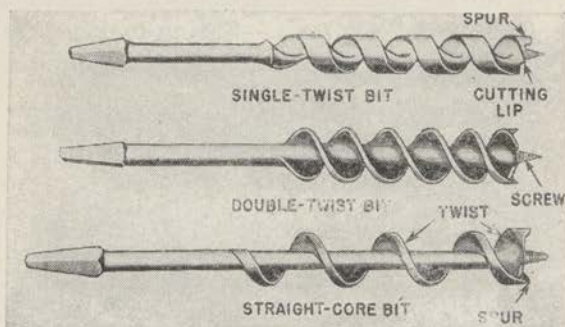

FIGURE 46.—Auger bits.
(2) Wood boring bits are made in many styles. The most important are the auger bits, three of which are shown in figure 46. These are available in sizes measured in sixteenths of an inch from $\frac{3}{16}$ to 1 inch. (Example: A No. 4 bit is $\frac{4}{16}$ or $\frac{1}{4}$ inch in diameter, and a No. 7 bit is